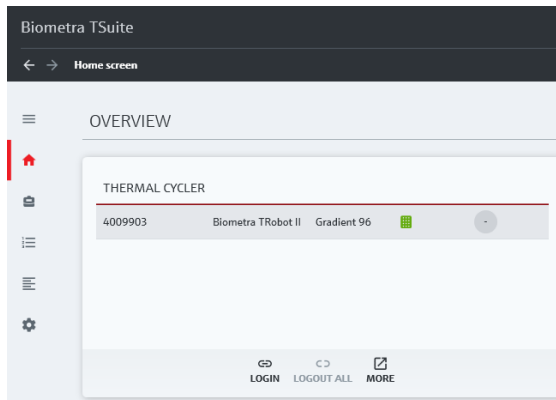

Fig. 7 Biometra TSuite home screen
- Go to the page *Home screen* shown in Fig. 7.